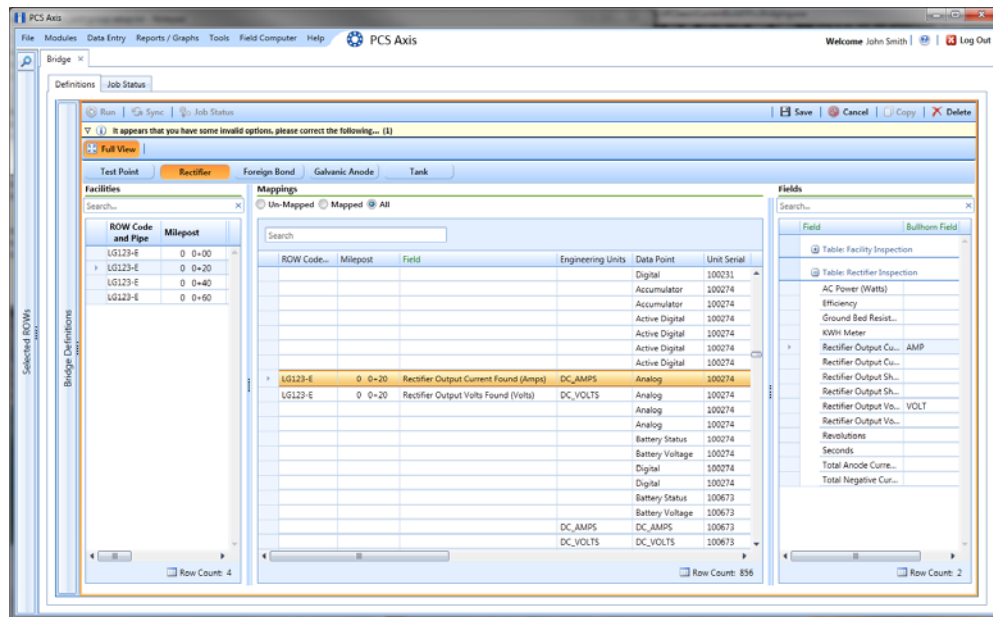

Figure 9-46. PCS Axis and Bullhorn Mappings
- 8 Click  **Save** and then click  **Full View** to hide the *Name*, *Bullhorn Token*, *Time Period*, and survey folder fields. Clicking *Full View* again displays these fields (Figure 9-46, page 432).
- 9 Click a facility type button to select the type of facility data you want to map. For example, the *Rectifier* button is selected in the following figure (Figure 9-46, page 432).